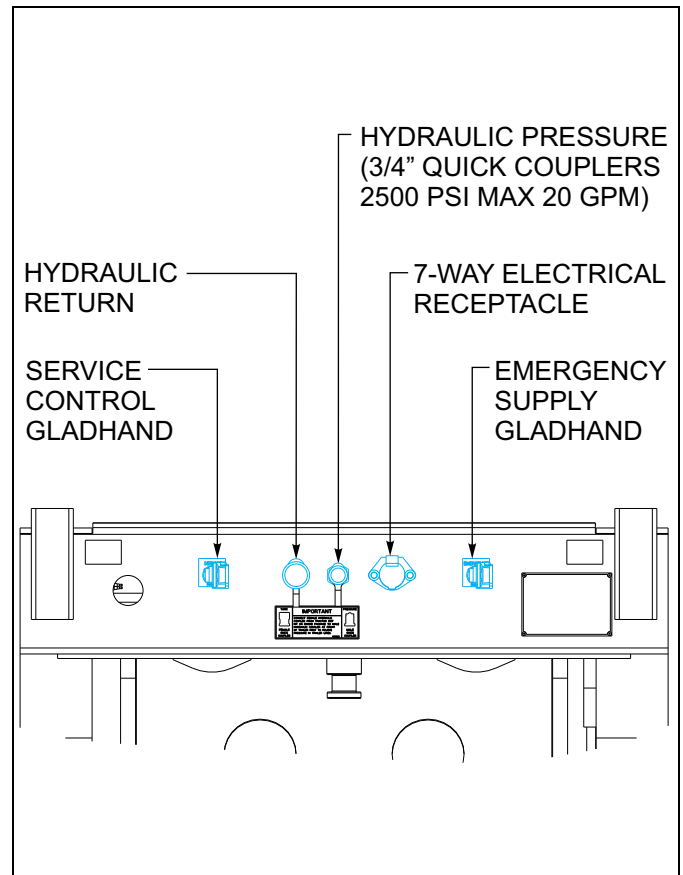

Figure 3-2: Service Hookups
3. Connect the service and emergency air hoses of the towing vehicle to their respective gladhand on the front of the semitrailer; red emergency line to the gladhand with the "**EMERGENCY**" tag, and the blue service line to the gladhand with the "**SERVICE**" tag (**See Figure 3-2.**) Chock the semitrailer wheels before activating the semitrailer air supply valve in the towing vehicle. Set the parking brakes.
1. Connect the towing vehicle 7-pole electrical plug to the electrical receptacle on the front of the semitrailer (See Figure 3-2.)